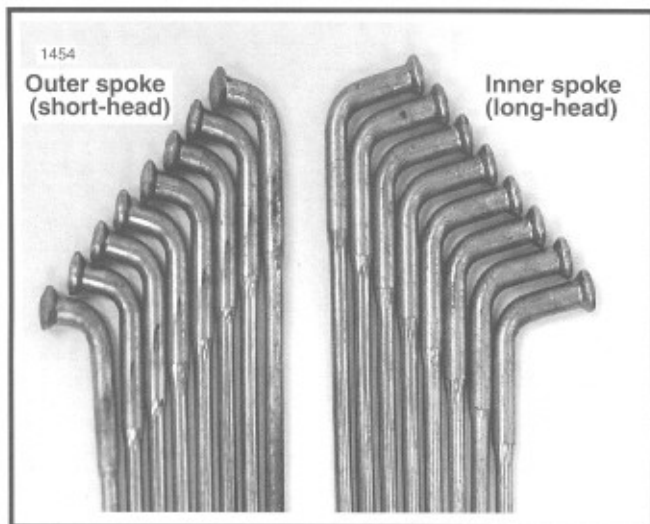

Figure 2-23. Spoke Identification
1. See Figure 2-23. Divide spokes into two groups. Inner spokes have long heads, outer spokes have short heads. There are also fine- and coarse-threaded spokes and nipples. Match up fine-threaded spokes with fine-threaded nipples, and coarse-threaded spokes with coarse-threaded nipples. Do not intermix the thread patterns.